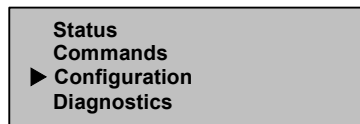

Figure 33: Main menu
1. On the main menu, scroll to Configuration. (See Figure 33.)